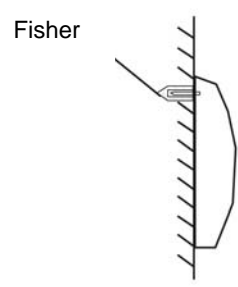

Figure 3
4. Mount the fan heater to the wall (See Figure 3).